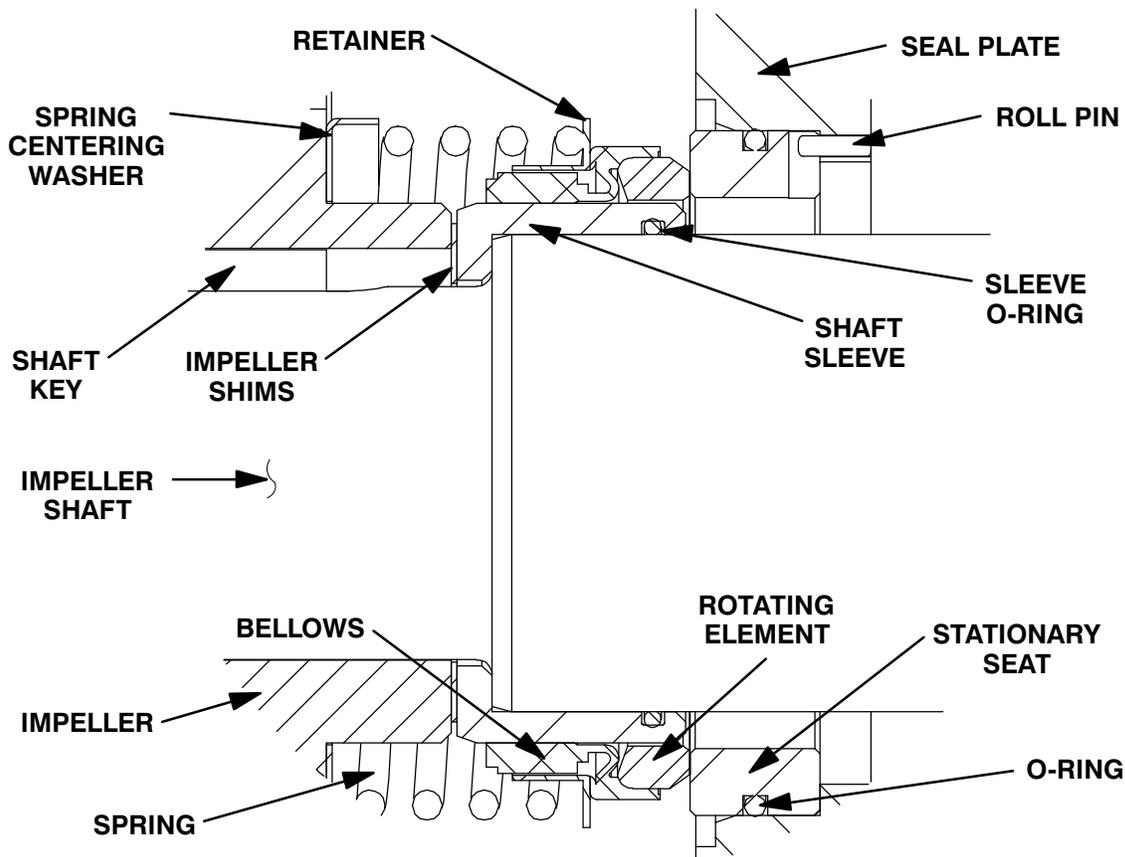

Figure 12. Seal Assembly
To ease installation of the seal, lubricate the stationary seat O-ring, the I.D. of the bellows and the O.D. of the shaft sleeve (3) with "P-80[®] Emulsion" or water. **Do not** use oil or any substitute lubricant other than water. Apply a drop of light lubricating oil on the finished faces. Assemble the seal as follows, (see Figure 12).